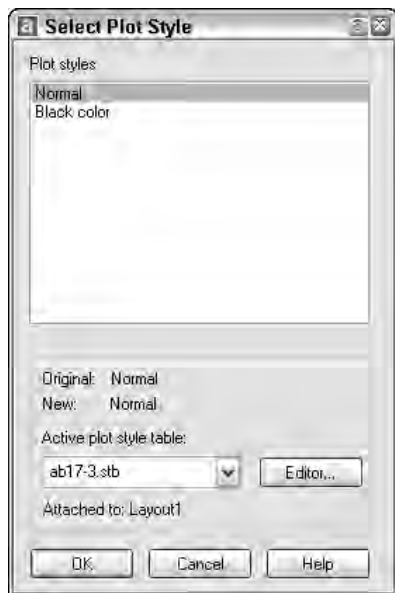

Figure 17-18: The Select Plot Style dialog box lets you choose a plot style for a layer.
13. Choose **Layer Properties Manager** from the **Layers** toolbar. In the **Layer Properties Manager**, choose **A-DETL-PATT** (the layer with the magenta color). Click that layer's **Plot styles** column to open the **Select Plot Style** dialog box, shown in Figure 17-18. Choose **Black color** and click **OK**. The **Plot Style** for the **A-DETL-PATT** layer now shows as **Black color**. Click **OK** to close the **Layer Properties Manager**.